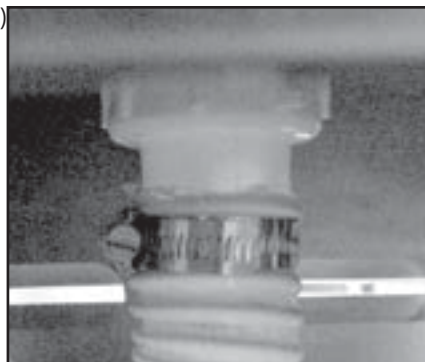

Fig. 54
13. Attach the sink drain hose to the bottom of the sink (use one tailpiece washer) (Fig. 54 and 55).